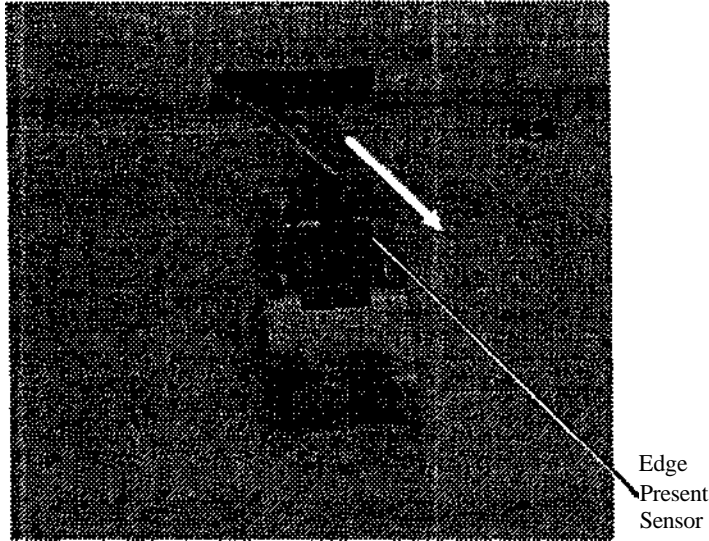

Figure 3. Removing the Edge Present Sensor
4. (Figure 3): Remove the sensor and cable.